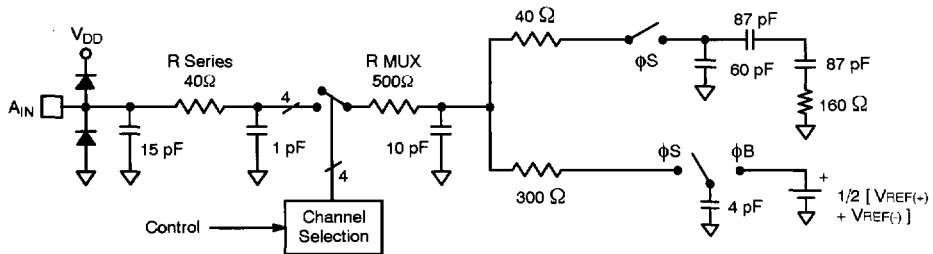

Figure 9. Analog Input Equivalent Circuit
- ³ See V_{IN} input equivalent circuit (see Figure 9).
The MP8798's performance is optimized by using analog input circuitry that is capable of driving the A_{IN} input. Figure 9 shows the equivalent circuit for A_{IN} .